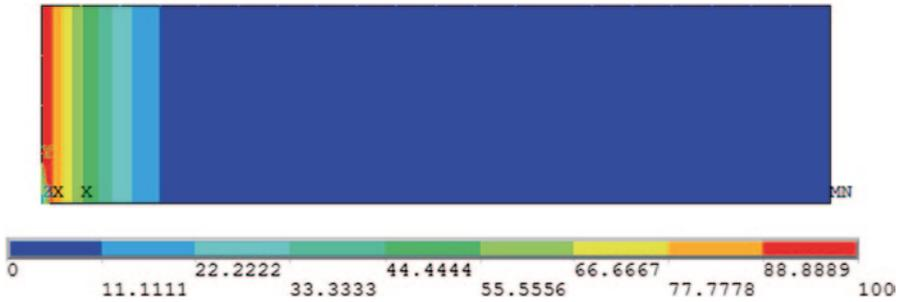

Fig. 5.25 Temperature distribution contour plot at $t=0.5$
- View the temperature contours, as shown in Fig. 5.25.